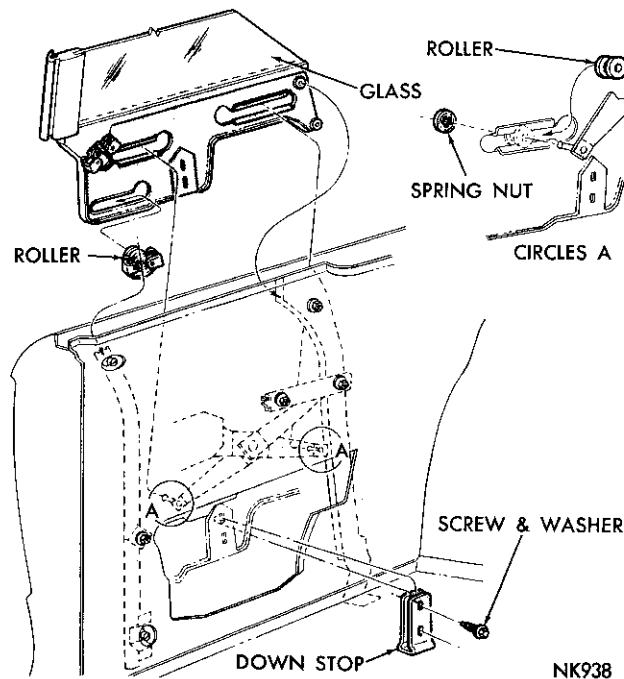

Fig. 103—Quarter Window Replacement (Chrysler Convertible)
(1) Remove the regulator handle, trim panel and watershield and lower the quarter window assembly.
(2) Remove the spring nuts from the regulator arm studs (Fig. 103) and remove the studs from the rollers.
(3) Remove the rollers from the glass lower frame slots.
(4) Raise the glass and lower frame assembly out